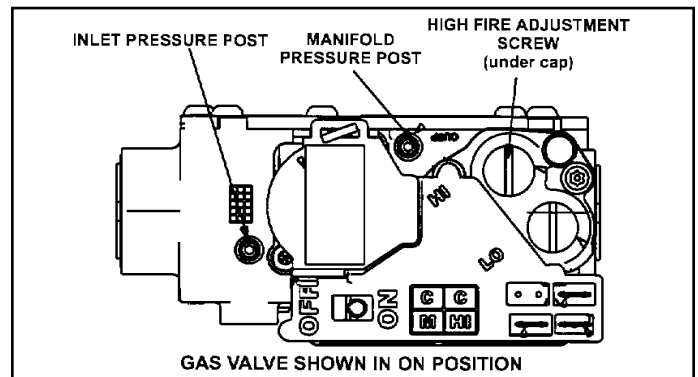

Figure 70.
6. Move gas valve switch to OFF. See Figure 70.
8. Move gas valve switch to ON. See Figure 70.
An inlet pressure post on the inlet side of the gas valve provides access to the supply pressure. See Figure 70. Back out the 3/32 Hex screw one turn, connect a piece of 5/16" tubing and connect to a manometer to measure supply pressure.
1. A manifold pressure post located on the gas valve provides access to the manifold pressure. See Figure 70. Back out the 3/32 Hex screw one turn, connect a piece of 5/16" tubing and connect to a manometer to measure supply pressure.